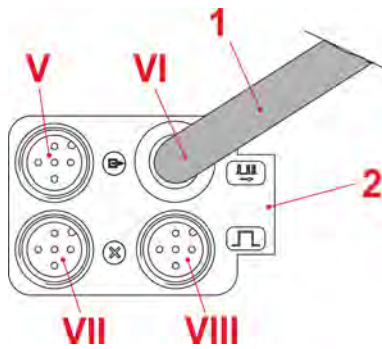
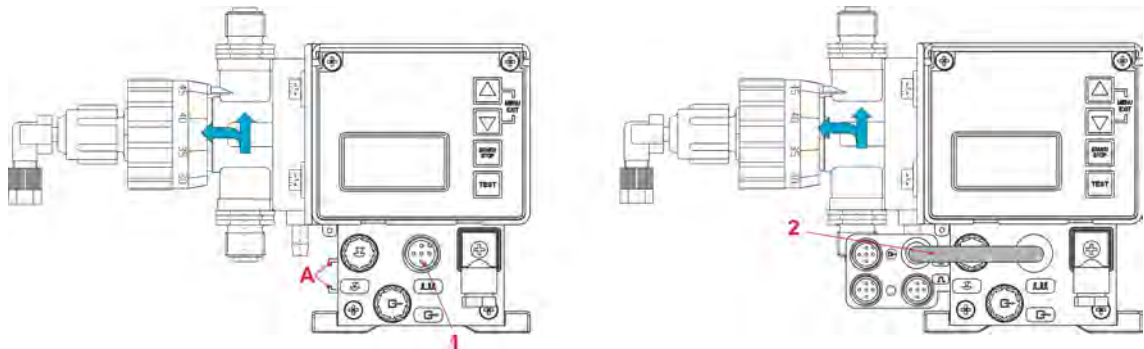

Fig. 23: Dongle-Box
Fig. 24: Fitting the Dongle-Box and Micro-Flow-Box
1. Fit the Dongle Box eg. MicroFlow-Box (Fig. 23) to the rail of the EMP pump provided for this purpose (Fig. 24, pos. A).
2. Slide the Dongle Box eg. MicroFlow-Box (Fig. 23) onto the rail on the left side of the EMP pump (Fig. 24, pos. A), until it snaps into place.
3. Connect the connection cable (Fig. 23, pos. 1 and on page 49, pos. 2) to the input for pulse / standard signal (Fig. 24, pos. 1).
If, before upgrading with a Dongle Box eg. MicroFlow-Box a plug is connected to the input for pulse / standard signal (Fig. 24), then this plug can be connected after the upgrade to plug VIII (Fig. 23) of the Dongle Box eg. MicroFlow-Box.